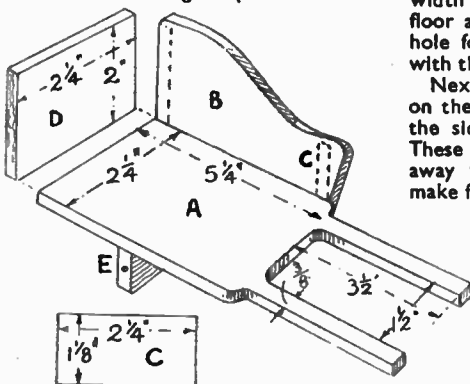

Fig. 2
Commence by making the cart, and the main floor (A) should be the first part put in hand. We have not been able to find room on our pattern sheet to include this floor full-size, but it is simple in outline and we have shown a diagram of it in Fig. 2 with all the necessary measurements for draughting it out on the wood direct.